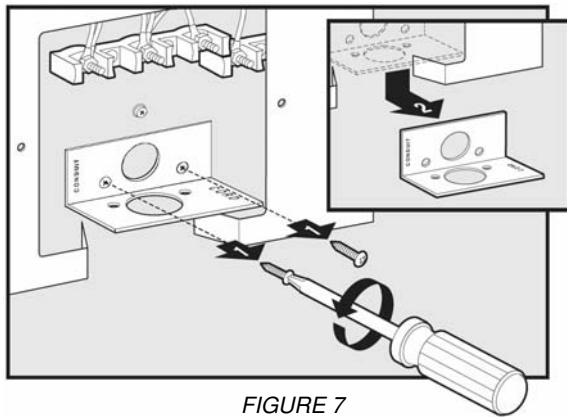
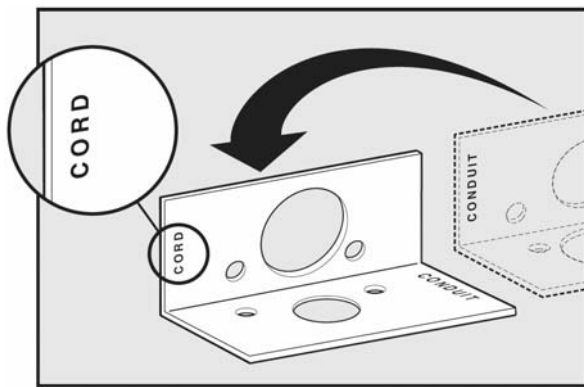

FIGURE 7
FIGURE 8
**CONDUIT PLATE:** For use with a cord skip figures 7 and 8. For use with conduit, remove the screws and remove the plate (See figure 7). Position the plate for conduit and reattach (See figure 8).